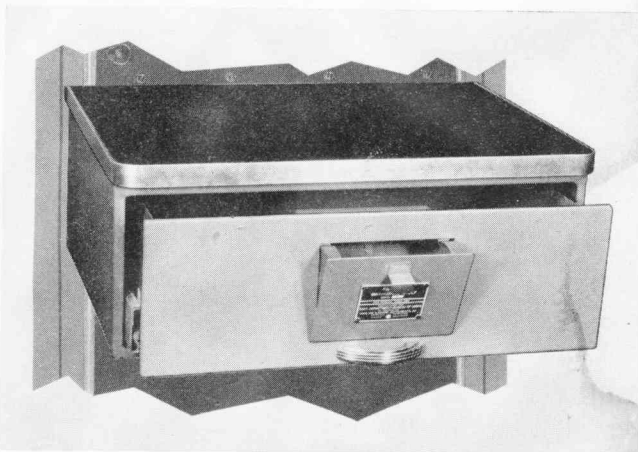

Figure 1-31. Switchboard Shelf AN Type FN-28/G Mounted on Front of Cabinet
(24) SWITCHBOARD SHELF AN TYPE FN-28/G (*Figure 1-31*).—Switchboard Shelf AN Type FN-28/G is a desk panel located at the operator's position of the Signal Distribution Unit. The Shelf is of sheet metal construction and is secured to the front panel mounting angles of the cabinet. It occupies panel space equal to a Navy standard Size E panel. The shelf consists of a masonite writing top and sliding steel drawer with a removable ashtray built into the front.